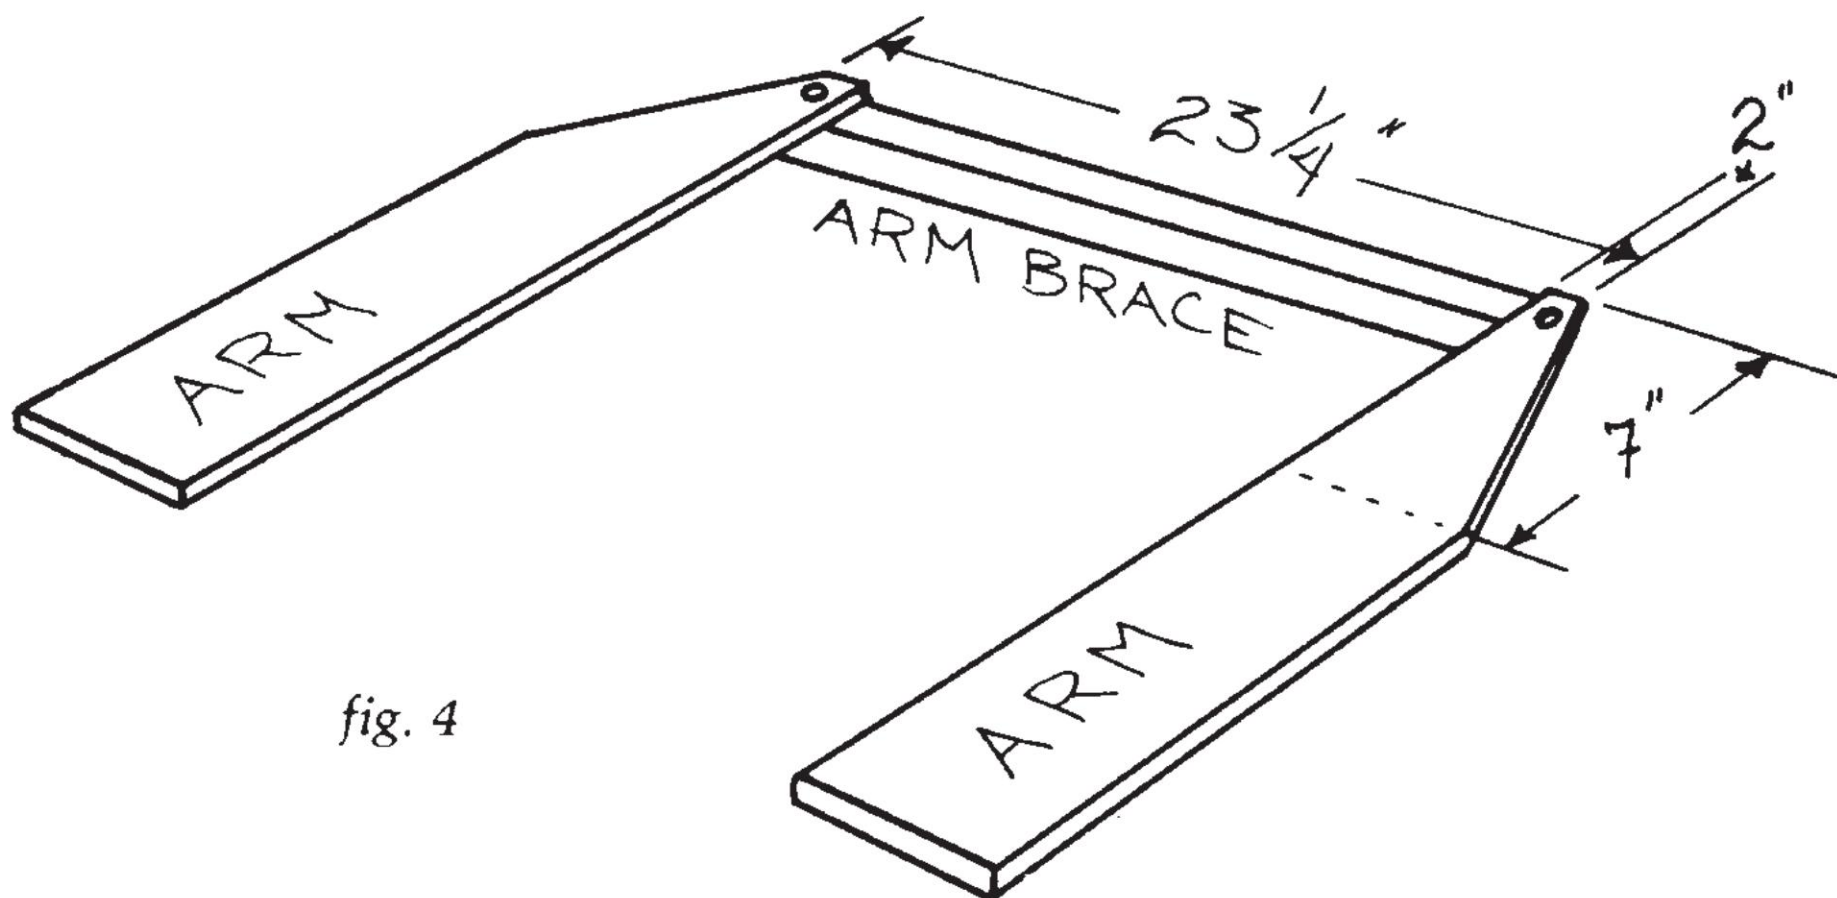

fig. 4
8. Cut the angles on the arms. See *fig. 4.*
9. Drill starter holes and screw the arm brace to the back of the arms. *fig. 4.*